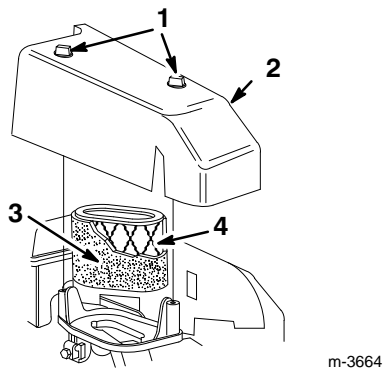

Figure 10
2. Loosen the knobs securing the air cleaner cover (Fig. 10).
3. Remove the cover and clean it thoroughly (Fig. 10).
- Remove the foam pre-cleaner and wash it with a mild detergent and water, then blot it dry (Fig. 10).
- Remove the paper air filter and discard it (Fig. 10).
- Install the foam pre-cleaner on the new paper air filter (Fig. 10).
- Install the new air cleaner filter (Fig. 10).
- Install the cover and secure it (Fig. 10).